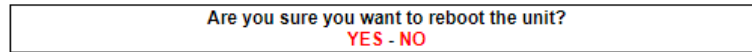

Figure 63. Configurator GUI (unit reboot dialog)
- The unit reboot dialog will be shown (Figure 63 (page 147)).